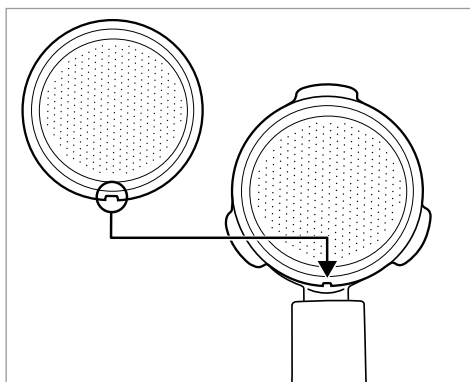

Figure 2
- 2) Place either the large (19) or the small espresso sieve (20) in the portafilter (see Figs. 2 and 3):